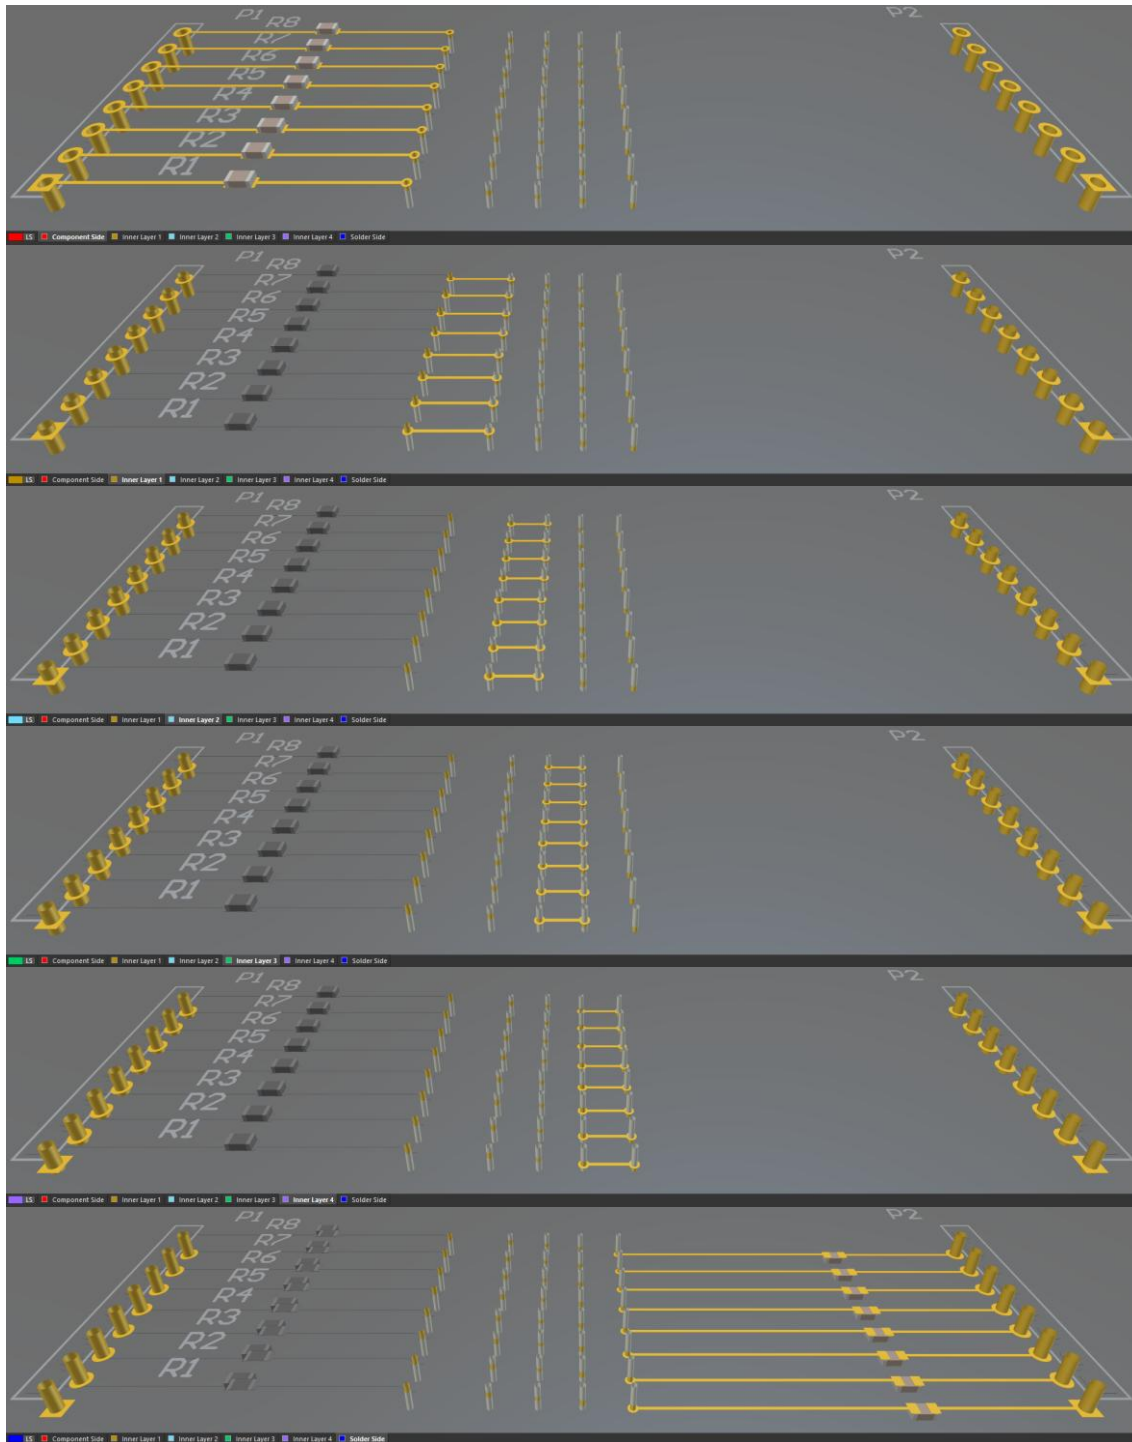

Figure 12. 3D Single Layer Viewing stepping from Top to Bottom layers
26. Switch back to 3D mode and use the **SHIFT+S** single layer viewing option to cycle through the various layers of the PCB, using the **+** button, as you can see in the series of images below, Figure 12.